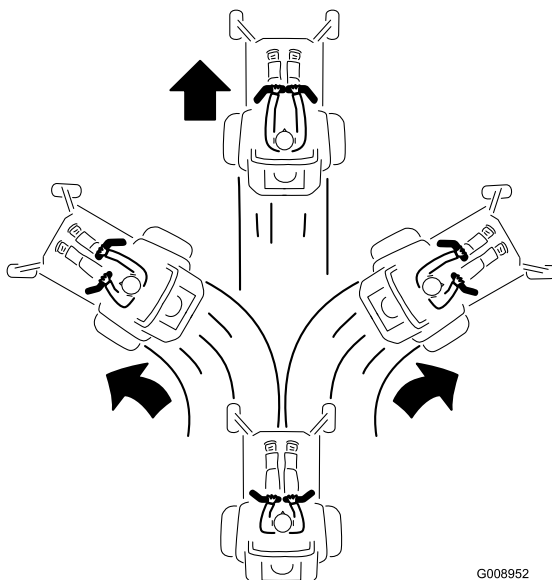

Figure 17
2. To go forward, slowly push the motion-control levers forward (Figure 17).
To go straight, apply equal pressure to both motion-control levers (Figure 17).
To turn, release pressure on the motion-control lever toward the direction you want to turn (Figure 17).